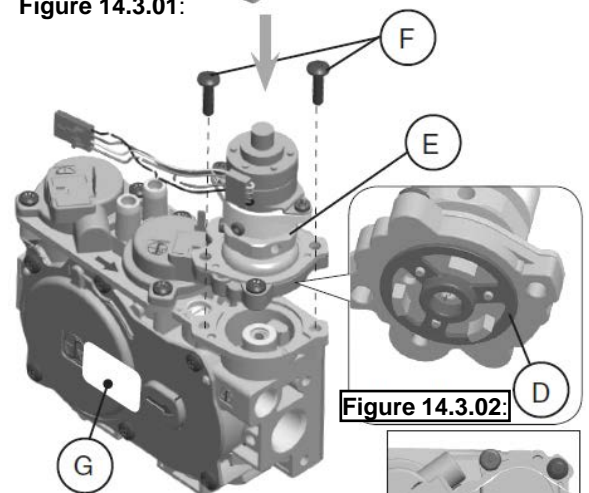
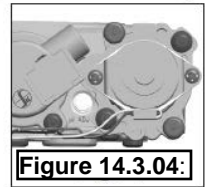

Figure 14.3.03:
Figure 14.3.04:
4. Install the new STEPPER MOTOR pressure regulator assembly, as shown in **Figure 14.3.03** and **Figure 14.3.04**. Use the supplied screws (F), M4 x 0.7 threaded, length of thread $L = (16 \text{ mm} + 0 - 0.5 \text{ mm})$, steel material, resistance class 8.8 (see **Figure 14.3.05**).